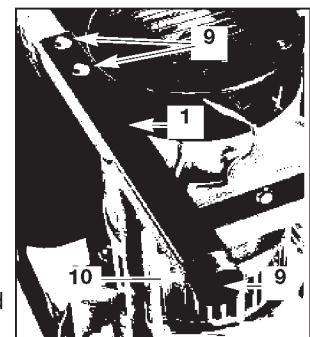

Figure 9
11. Tighten lock nuts (7) on wheel brackets.
12. Attach rubber bumpers (10) to foot brackets (1) using screws (9) and keps nuts (13). Tighten securely.
13. Attach foot bracket assembly (1) to generator frame with screws (9). See Figure 9. Tighten screws securely. **NOTE:** These screws are self-tapping and may require pressure to start. Repeat on other side.